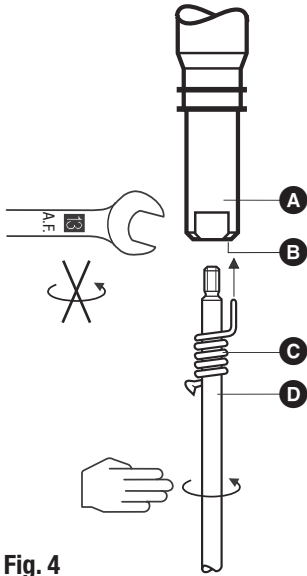

Fig. 4
1. Screw electrode tip **D** into measuring electrode **A** , **Fig. 4, Fig. 8**.